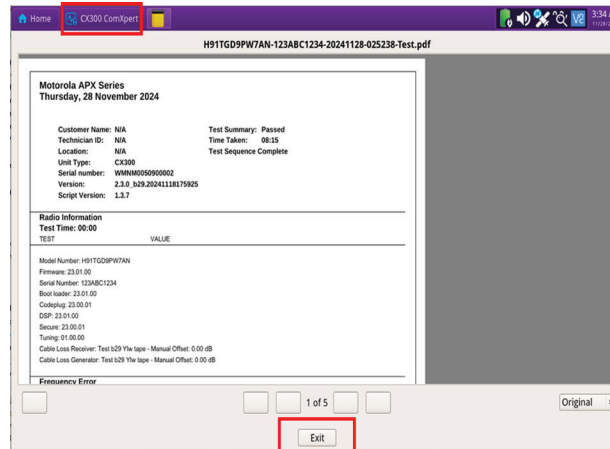

Figure 8
4. To close the .pdf and return to Autotest Select **"Exit"** then CX300 ComXpert (Fig.8)